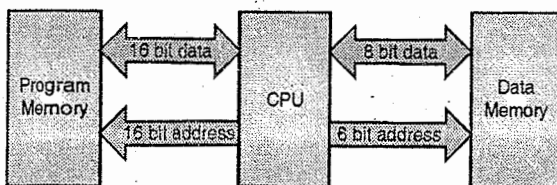

Fig. 4.1.1 : Block diagram for Harvard architecture of PIC microcontrollers
- Harvard architecture is a newer concept than von-Neumann's. It rose out of the need to speed up the work of a microcontroller. In Harvard architecture, data bus and address bus are separate. Thus a faster flow of data is possible through the central processing unit, and of course, a greater speed of work. Separating a program from data memory makes it further possible for instructions not to have to be 8-bit words. Fig. 4.1.1 shows block diagram for Harvard architecture in PIC controllers.